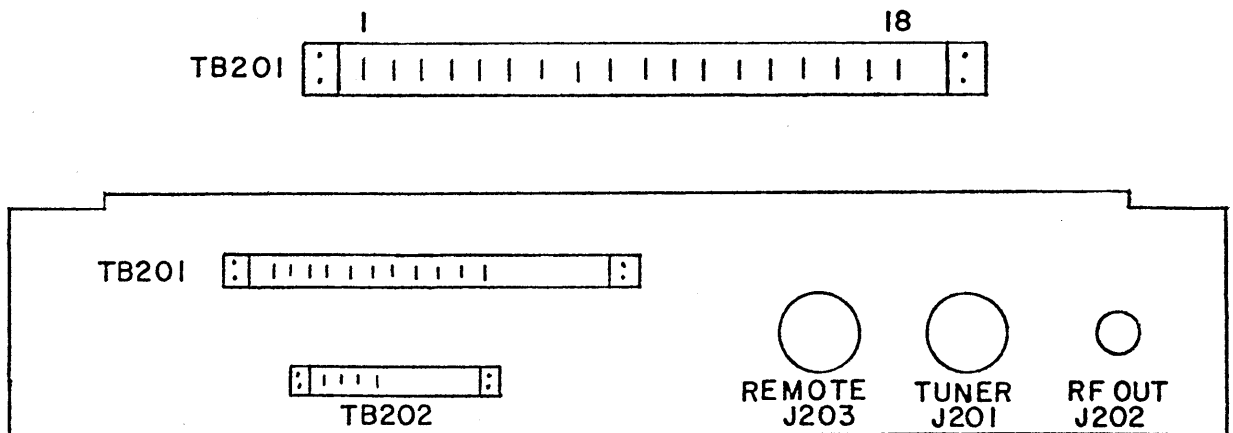

Figure 2-2, Interface Panel
An interface panel mounted at the rear of the transmitter cabinet is provided to support the mating jacks for unit interconnections and for most of the external connections to be made to the transmitter. The layout of this panel showing the locations of these connections is shown in figure 2-2.
(1) Internal Connections. Reference to the internal interconnection diagram, figure 2-2, will assist the installer in properly making the connections required. The terminal boards and jacks at the rear of the modular units have been marked with the appropriate "TB" or "J" number. Connectors on the wiring harness have been similarly identified. Check the numbers carefully for, unless all optional equipment is installed, some connectors will not be used.
(2) External Connections. After completing all of the external connections described in the paragraphs which follow, primary power must be supplied to the transmitter through the connector located at the lower left rear corner of the equipment cabinet. A plug (PL190-NG) which mates with this connector is furnished as a "loose item" to facilitate the fabrication of this power cable.